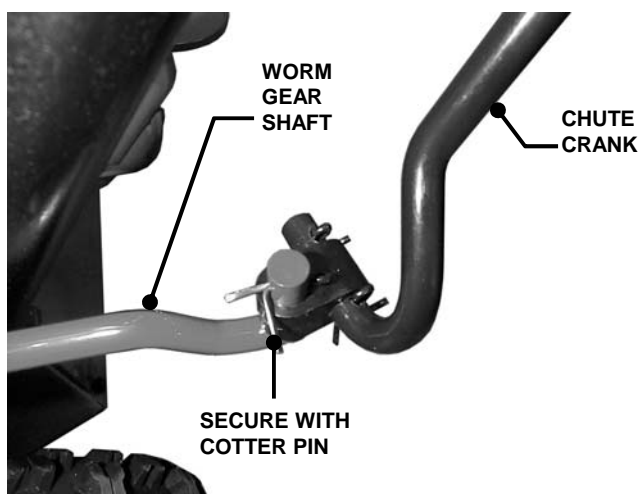

FIGURE 6
STEP 6: CHUTE CRANK: Connect chute crank to worm gear shaft and secure with cotter pin. See Figure 6.